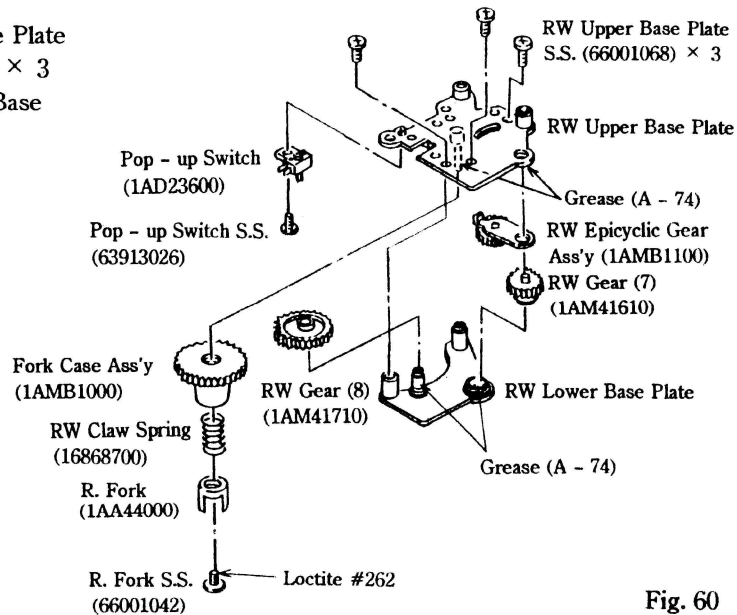

Fig. 60
- 2) Disassemble the Ass'y as shown in Fig. 60.